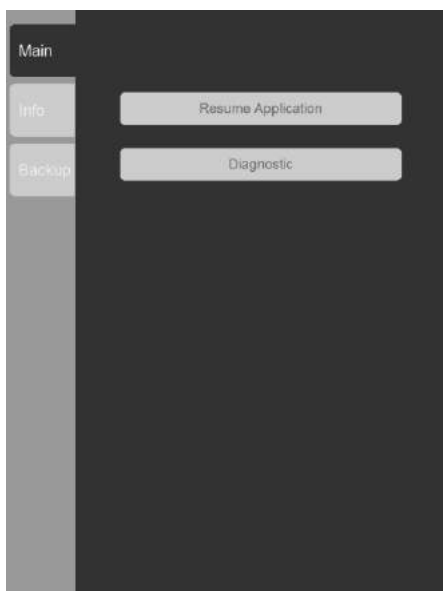

Figure 16.2. Service Menu Window
- Once the “**Service Menu**” is available (Figure 16.2), click on **Diagnostic** option in the **Main** tab.
- Initialize the instrument: To do so, press , “**Resume Application**” in the **Main** tab of the , “**Service Menu**” (Figure 16.2).